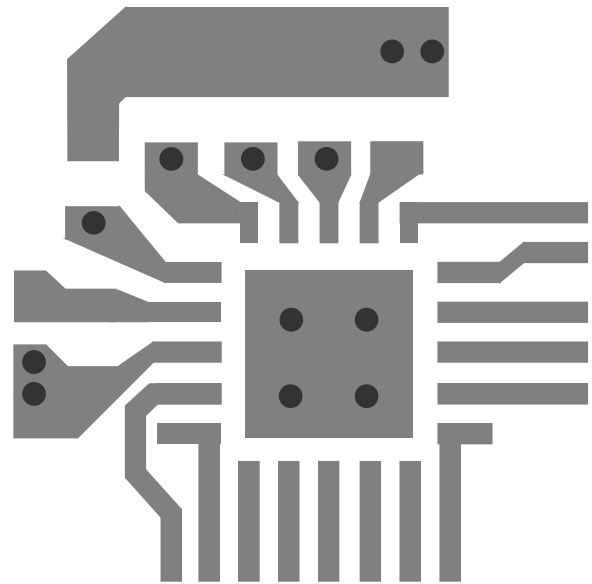
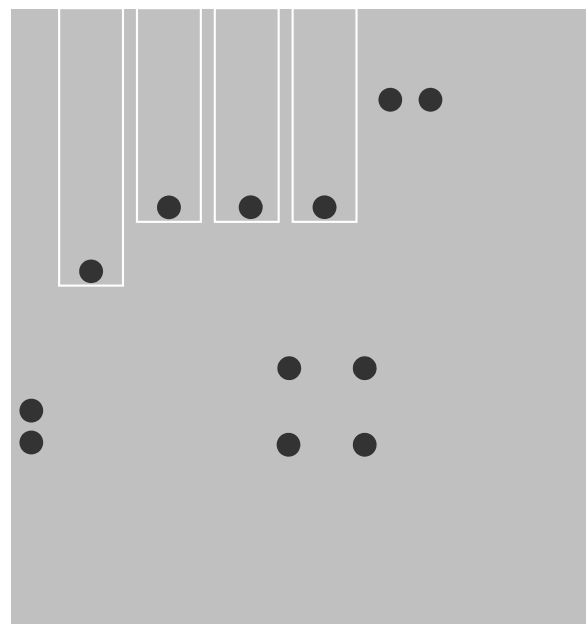

Figure 17 — Layer 1
Figure 18 — Layer 2
- Figure 17 shows the component copper layer. Make all ground connections to a solid ground plane as shown in Figure 18.